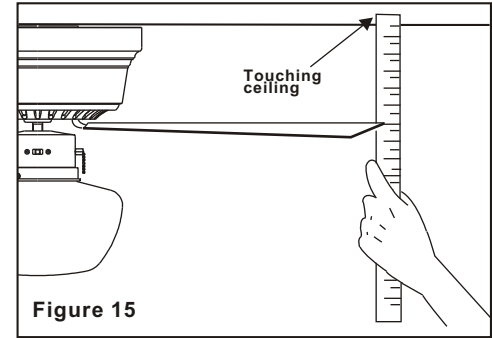

Figure 15
2. Most fan wobbling problems are caused when blade levels are unequal. Check this level by selecting a point on the ceiling above the tip of one of the blades. Measure this distance. (Fig. 15) Rotate the fan until the next blade is positioned for measurement. Repeat for each blade. The distance deviation should be equal within 1/8".